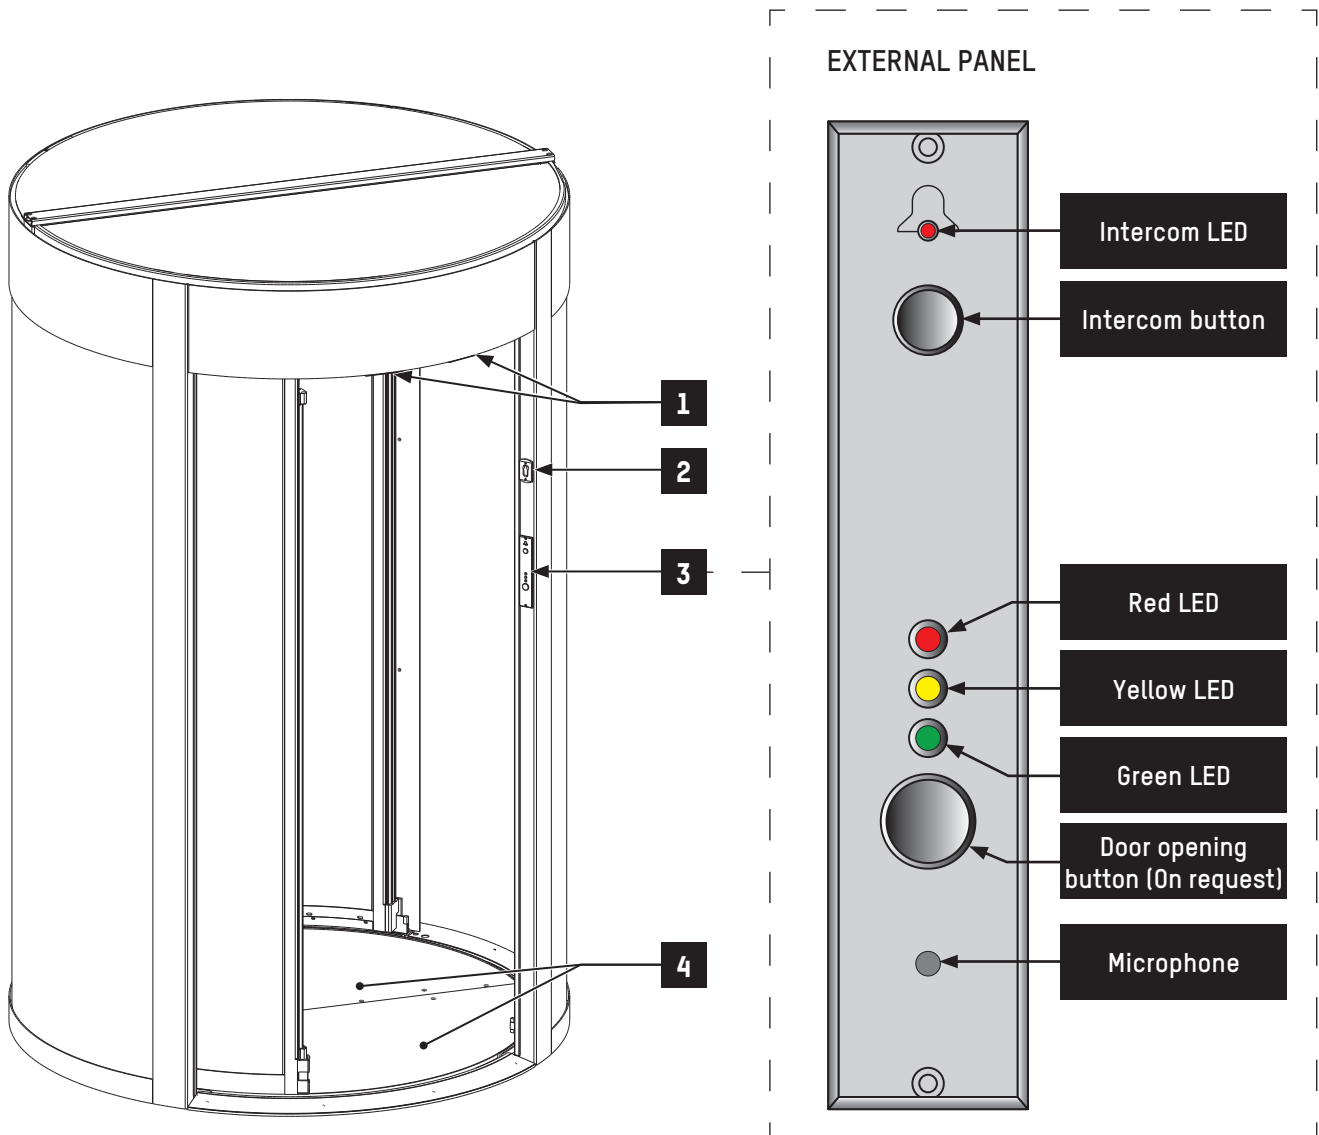

Fig. 2 - External side view
The security booth can be turned on and off with the control console key or with the mechanical lock situated on the top of the external side of the booth (⇒ Fig. 2).
1. Press the call button (part 3, Fig. 2 - External side view) situated on the side of the passage compartment and wait for the door to open